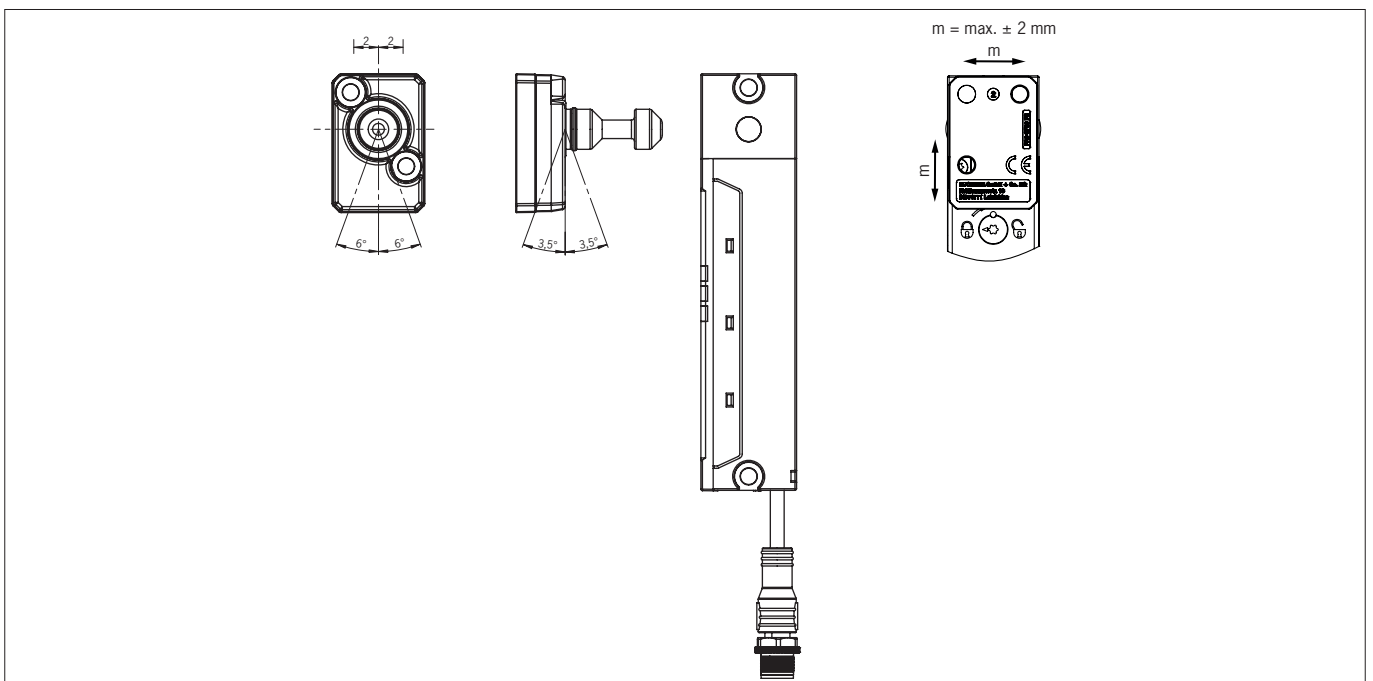

Fig. 4: Maximum actuator deflection and maximum center offset
- Observe the maximum permissible inclination angles between switch and actuator (see Fig. 4).